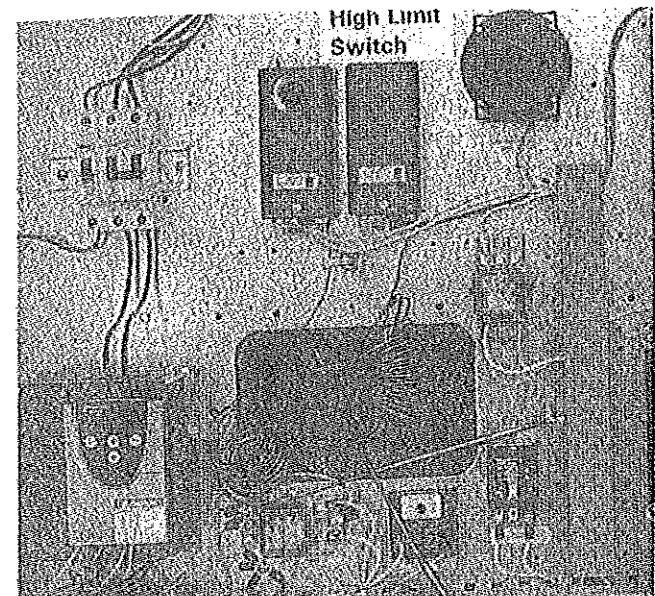

Figure 47 - Standard Cabinet Inside
3. Natural Gas (NG) Fuel:
4. Adjust the high limit thermostat (Figure 47), located in the upper right side of the control cabinet, 30-50° above the desired drying temperature or just enough to avoid nuisance shutdowns. (See Recommended Drying Temperatures, page 45)